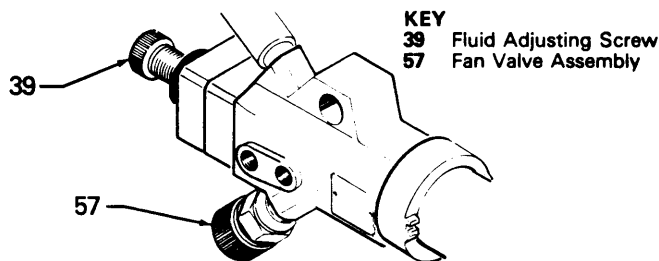

Fig 4
5. For fine adjustment, use the fluid adjusting screw (39) located at the rear of the gun. See Fig 4. Turn the knob *clockwise* to *reduce* the amount of fluid being sprayed, and *counterclockwise* to *increase* the amount being sprayed.
7. Use the fan valve (57) to change the shape of the spray pattern. See Fig 4. Turn fan valve knob *counterclockwise* for a *wide pattern* and *clockwise* for a *solid, round pattern*.
4. Note the position of the fluid adjusting screw (39). See Fig 4. Turn the fluid adjusting screw to relieve spring tension on needle assembly.